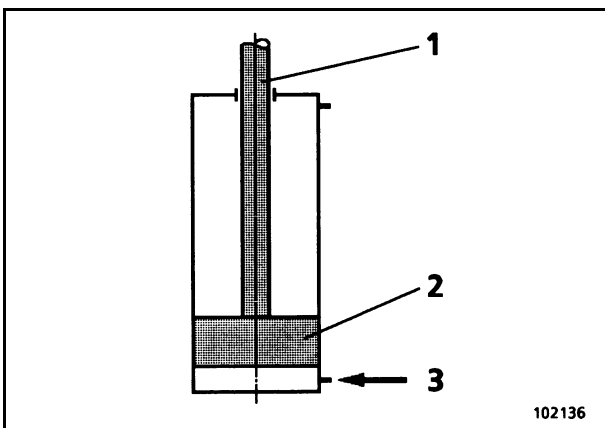
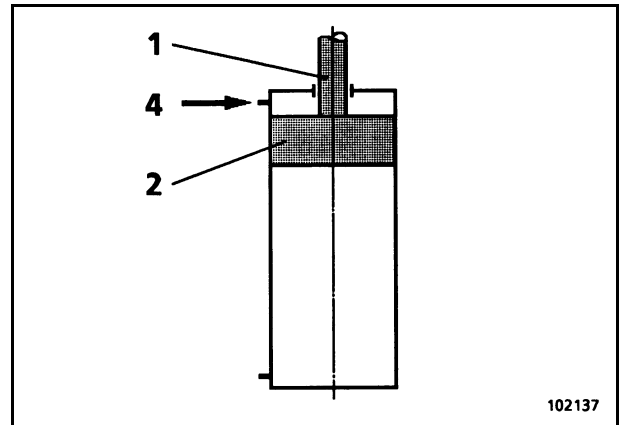

Fig. 3-86:
Fig. 3-87:
Before the initial admission of the cylinder with oil, the piston must be in either of the two extreme piston positions. In other words, the piston rod (1, Fig. 3-86: and Fig. 3-87:) must be either completely retracted or completely extended.
- the piston-side port (3) when the piston rod is retracted (1, Fig. 3-86:),
- the rod-side port (4) when the piston rod is extended (1, Fig. 3-87:).